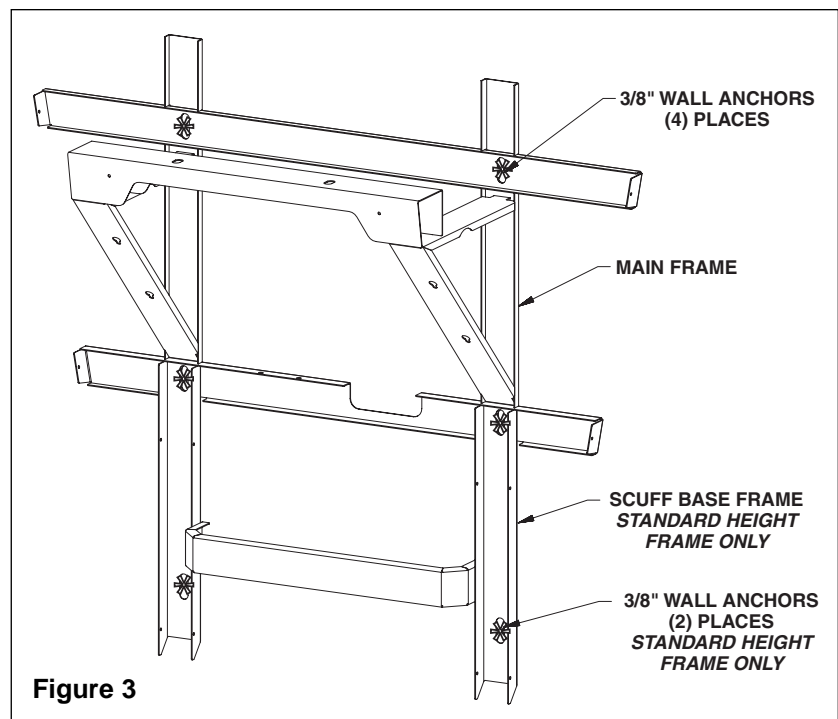

Figure 3
4. Once you have positioned the frame such that it is level (and resting on the floor, standard height frame only) and flat against the wall, use the 3/8" bolts and 1" min. O.D. washers to mount the frame to the wall (Figure 3).
5. When mounting the standard height frame, mount the scuff base to the wall at the same time using the two additional 3/8" bolts and washers mentioned in Step 1, procedure #3 on page 4 (Figure 3).